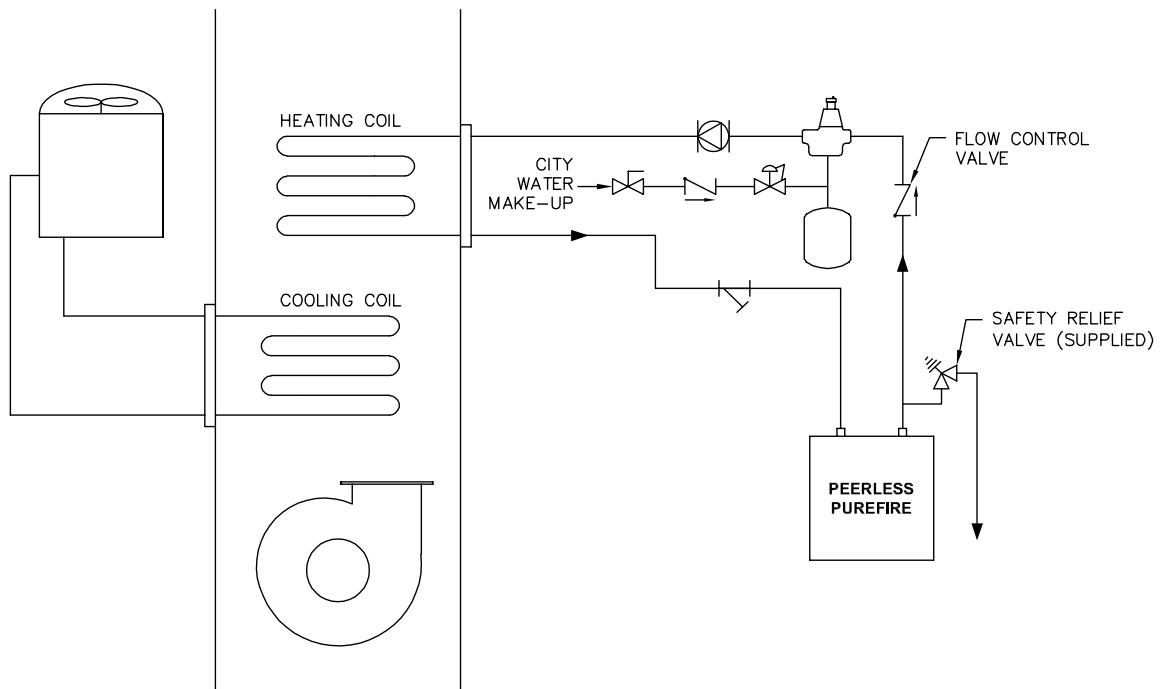

Figure 4.10: Boiler Connected to a Heating Coil in a Forced Air System
2. For boilers connected to heating coils in a forced air system where they may be exposed to chilled air circulation, install flow control valves or other automatic means to prevent gravity circulation of the boiler water during cooling cycles. See Figure 4.10 for an illustration.